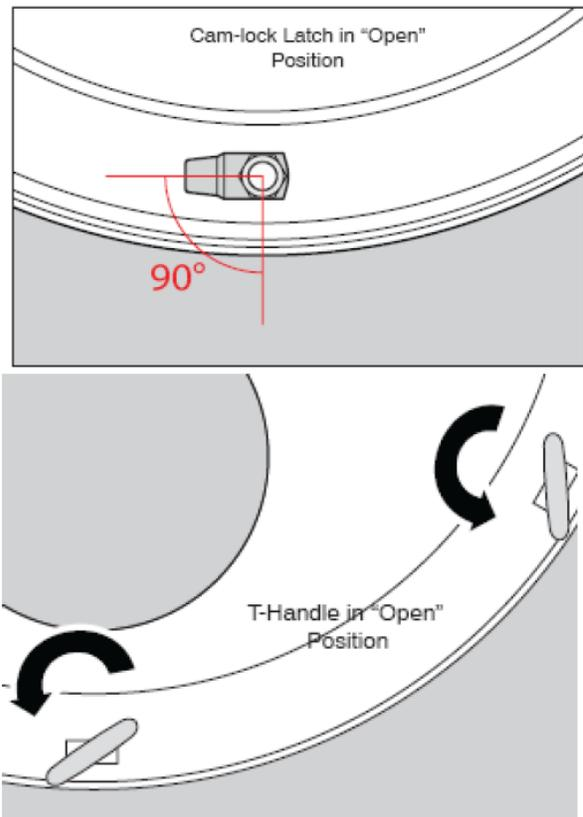
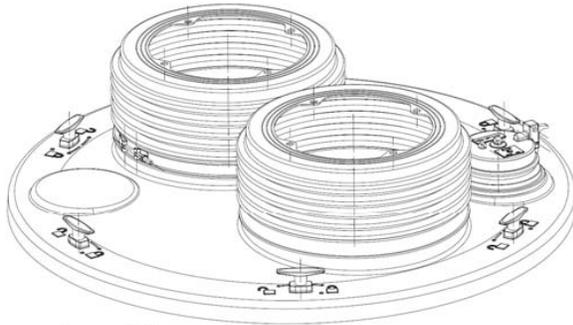

Figure 37
Figure 38
- 60. Ensure shroud cover is ready for installation. Turn all T-handles on the water shroud platforms to the open position – the cam-lock latches on the underside should be 90 degrees opposed from the edge of the platform (See Figure 37): Loosely install shroud boots over the shroud cover but do not tighten band clamps. Observation cover should be installed with all threaded openings plugged. See Figure 38.